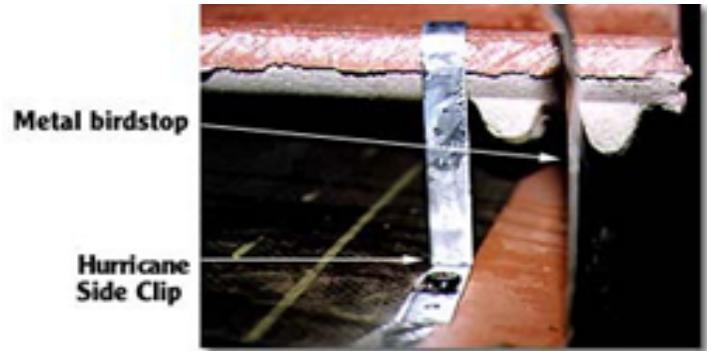

Figure 3
- B. Fasten the Wind Clip to the roof deck with a screw or nail through the hole closest to the tile. (Figure 3)